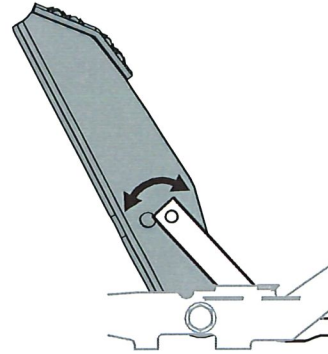

Figure 29
3. Position the pedal to the optimal position based on operator preference. See Figure 29.